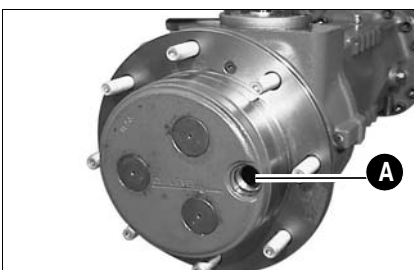

Fig. 32: Oil filler and inspection plug on planetary drive
- Place plug A in the position shown in fig. 32 (plug must be in horizontal position)
- Place plug 32/A in the position shown in fig. 32 (plug must be in horizontal position)